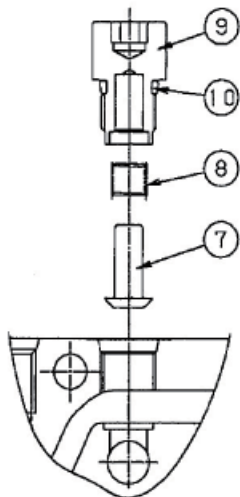

Figure 4. Check valve
### ■ Standard type check valve (see figure 4)
- ③ From the hole where check valve plug has been removed, remove check valve spring (⑧) and check valve (⑦) with tweezers or magnet.
- The numbers in figure 4 are the same as those in the P1, P2 inlet & straight travel block in the specifications and drawings.